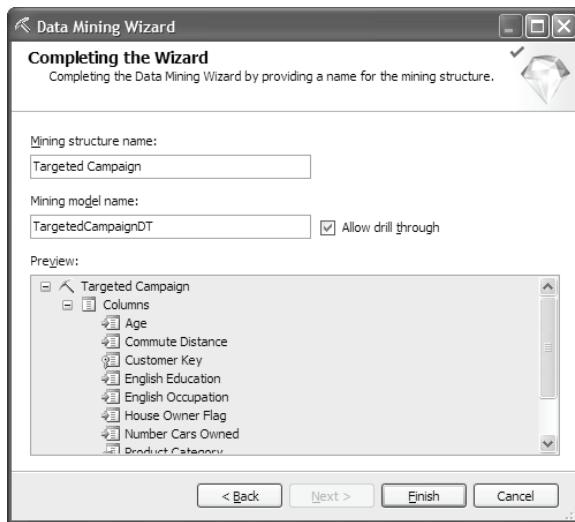

Figure 7.14 Enable drillthrough to let the end user see the source data for the model.
10. In the Completing the Wizard step (Figure 7.14), name the data mining model **Targeted Campaign**. Name the Mining model **TargetedCampaignDT** to denote the fact that the model uses the Microsoft Decision Trees algorithm (recall that one structure may include several data mining models). Check the **Allow drill through** checkbox. We will find out what it does in a